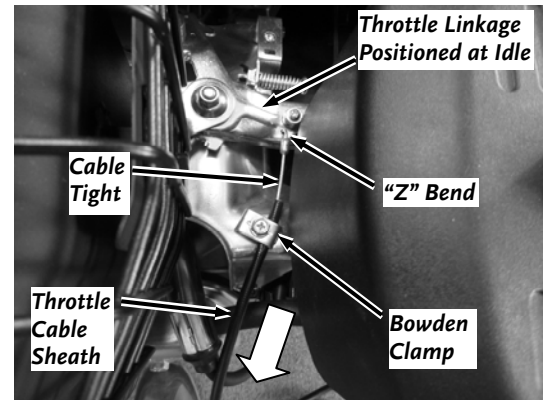

Figure 20
29. Loosen the Bowden Clamp with a Phillips Screw Driver or 5/16" Wrench and position the Cable Sheath under the Clamp (**Figure 20**). Hook the "Z" Bend end of the Throttle Cable in the Hole (hole furthest left) in the Throttle Linkage.
30. Hold the Engine Throttle Lever to the right in the idle (Turtle) position (**Figure 21**). While holding the Throttle Lever, pull on the Cable Sheath to tighten the Cable (**Figure 20**).